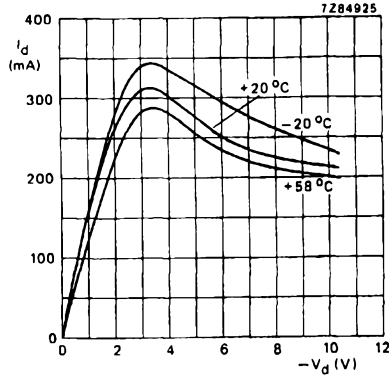

Fig. 2 D.C. bias characteristics of the Gunn oscillator for $T_{H_8} = -20, +20$ and $+58$ °C.
2. The power supply should be low-impedance voltage regulated and capable of supplying approximately 1,5 times the normal operating current to initiate oscillations. See Fig. 2.